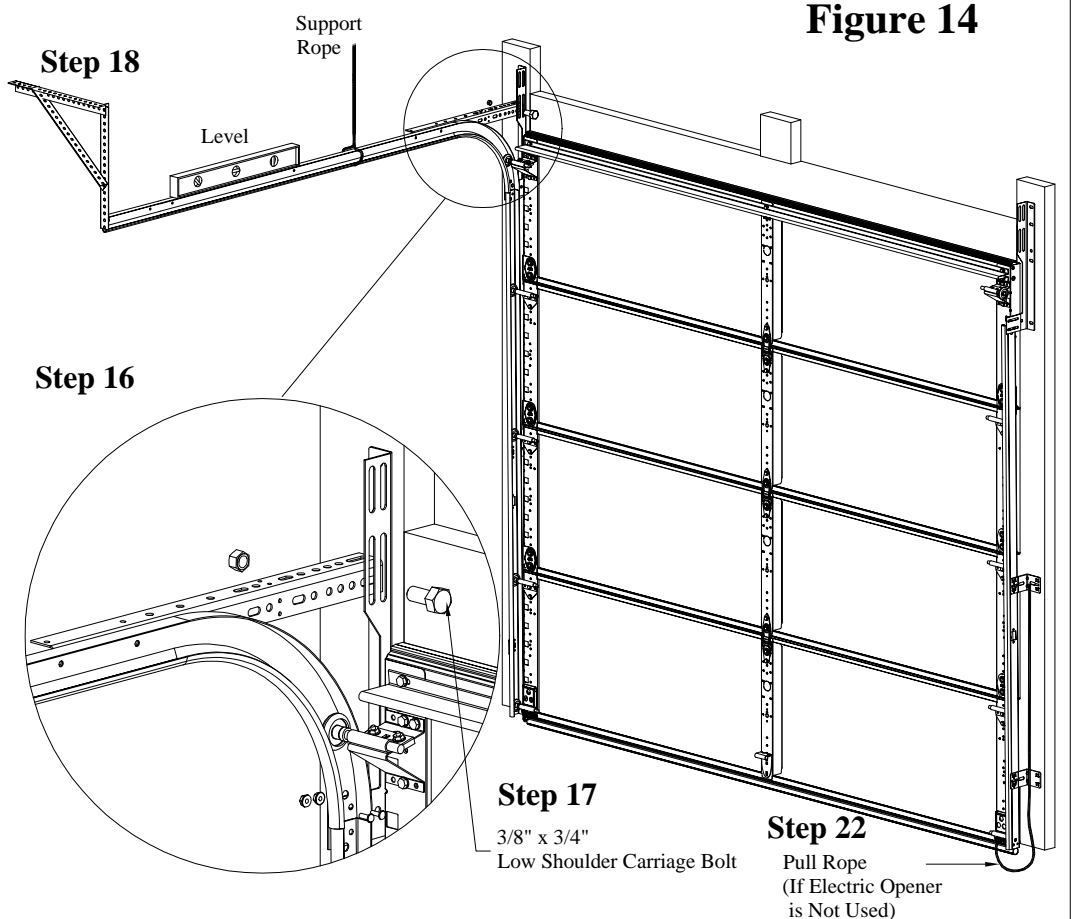

Figure 14
Place curved end of horizontal track assembly over the roller in the top fixture and attach to flag bracket with (2) 1/4"x5/8" track splice bolts and (2) 1/4"-20 hex nuts. temporarily support back end of horizontal track using a rope or wire from the roof trusses to support back end (Figure 14).
Replace support rope or wire with metal angle hangers (supplied by installer, recommend minimum 14 gauge) (Figure 14).
Step 19: Make sure track is level and square with opening (Figure 14). make sure distance between track and door is the same at the bottom of the vertical (Figure 14), at curve of horizontal and back of horizontal. Adjustment to track position may need to be made later, after the door is opened to maintain proper spacing.
Tighten the slide on the top fixture by pushing the top section tightly against the opening and lightly pulling the slide towards the inside of the garage (Figure 14). Tighten Nuts.